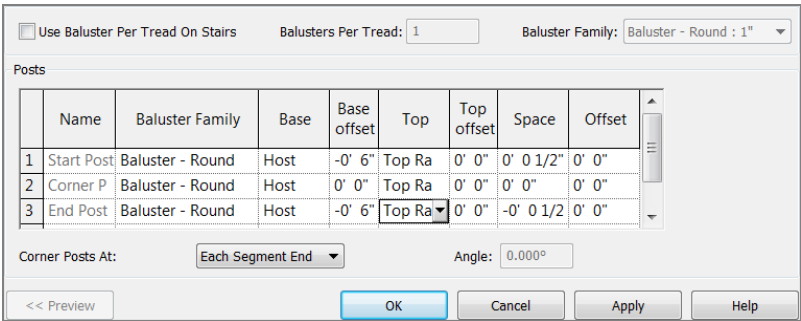

FIGURE 10.18: Setting the offset allows the post to extend to the floor where needed.
1. For Start Post (1) and End Post (3), type -6" (-150mm) for the base offset, as shown in Figure 10.18.